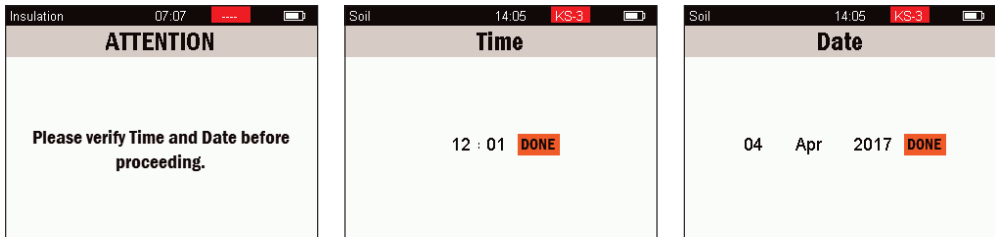

Figure 12 Verify time and date
1. When the THERMOLINK controller is first turned on, a message requesting time and date verification appears (Figure 12).